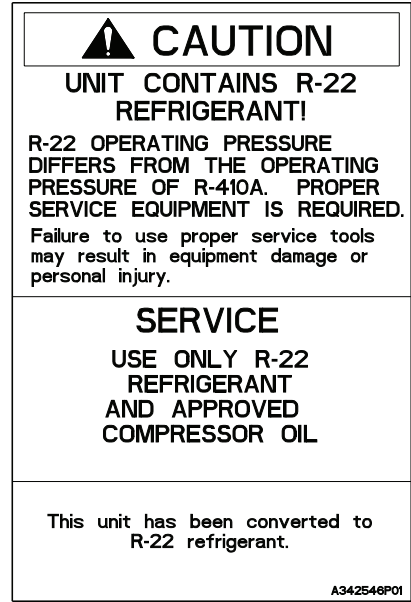

Figure 14
**IMPORTANT: Install the caution label (Figure 14) on front panel of the unit.**